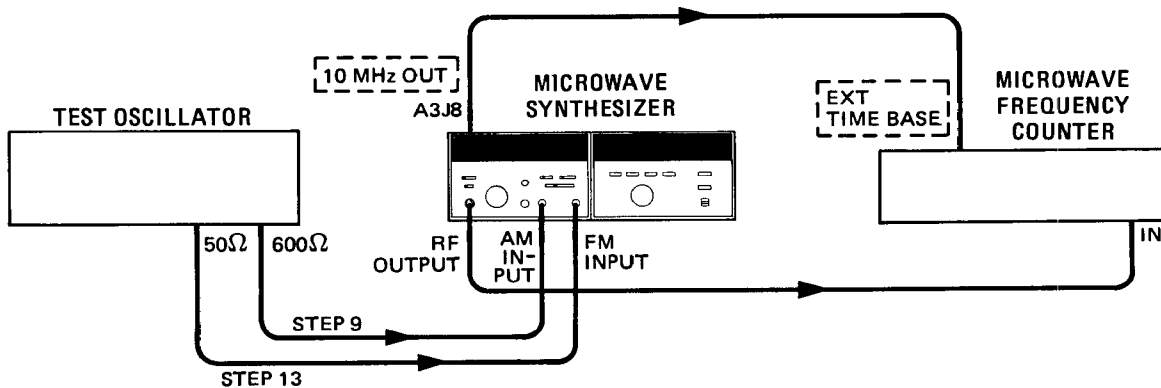

Figure 3-3. Operator's Frequency and Modulation Checks Test Setup
3. Press one at a time, the four FREQUENCY RESOLUTION keys 13 ; the Frequency Resolution Light Bars 8 should light one at a time and remain lit. Rotate the TUNING control 14 clockwise and then counter-clockwise and note that the digits displayed in the FREQUENCY display 8 increase and then decrease in order as the TUNING control 14 is turned. Perform this step as each of the four FREQUENCY RESOLUTION keys 13 are pressed. The first key on the left produces resolution in 100 MHz steps, the second key 1 MHz steps, the third key 10 kHz steps, and the fourth key 1 kHz, 2 kHz, or 3 kHz steps, depending upon the frequency band. Pressing the fourth key first will cause all four of the Frequency Light Bars 8 to light. Pressing the HOLD 10 pushbutton causes the Light Bars 8 to extinguish and prevents the TUNING control 14 from changing the frequency displayed.
4. Connect a microwave frequency counter to the Synthesizer as shown in Figure 3-3.
9. Apply power to the test oscillator, set the frequency to 10 kHz and the output level to 0 Vrms. Connect the test setup as shown in Figure 3-3.